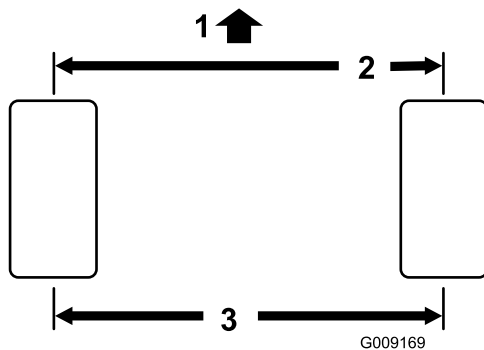

Figure 74
1. Measure the center-to-center distance (at axle height) at the front and rear of the steering tires. The front measurement must be $\frac{1}{8}$ in. (3 mm) less than the rear measurement (Figure 74).